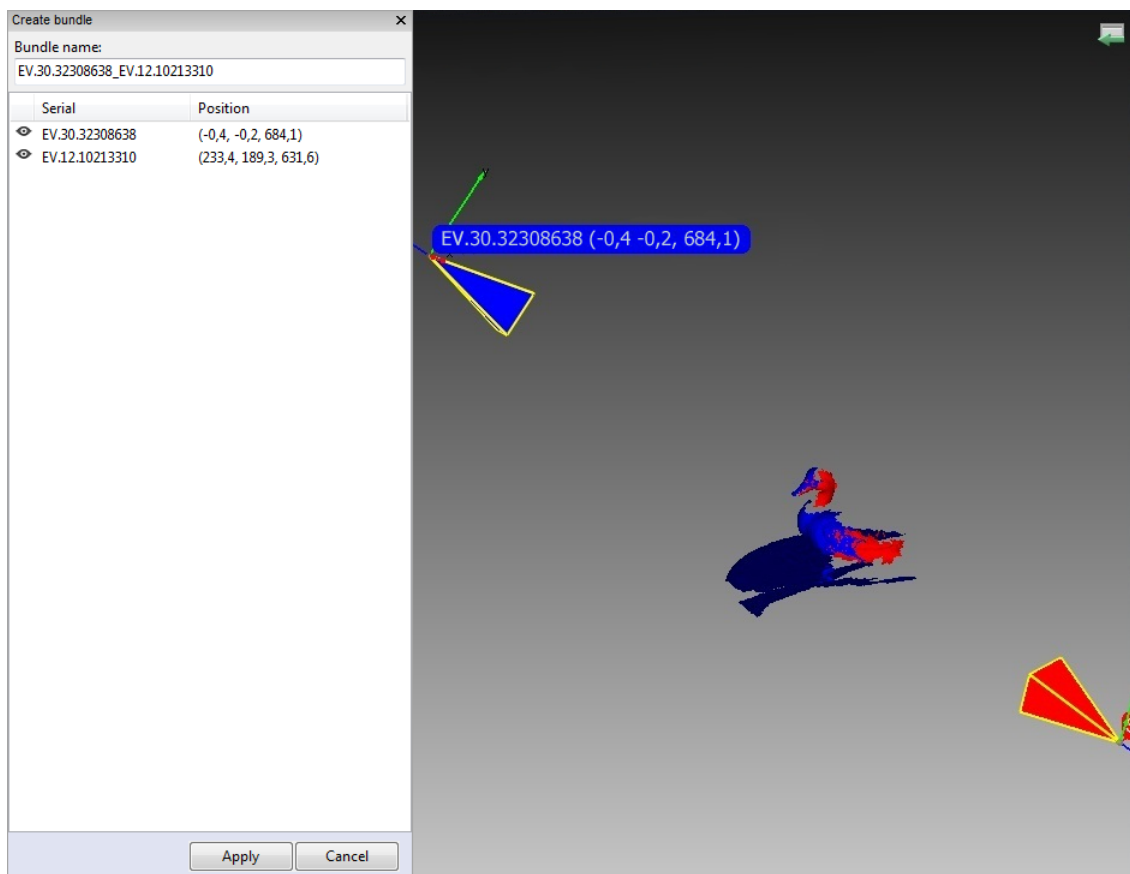

Figure 130: Bundle-creation window.
7. From the menu, select *File* → *Create bundle*. A warning message will appear if you forget to align the scans. Otherwise, the bundle-creation panel will appear (see *Figure 130*). The *3D View* window will show the selected scans, the position and viewing direction of the scanners (by means of an appropriately colored pyramid), the device ID, and the scanner coordinates. It will display a list of connected devices and corresponding information.